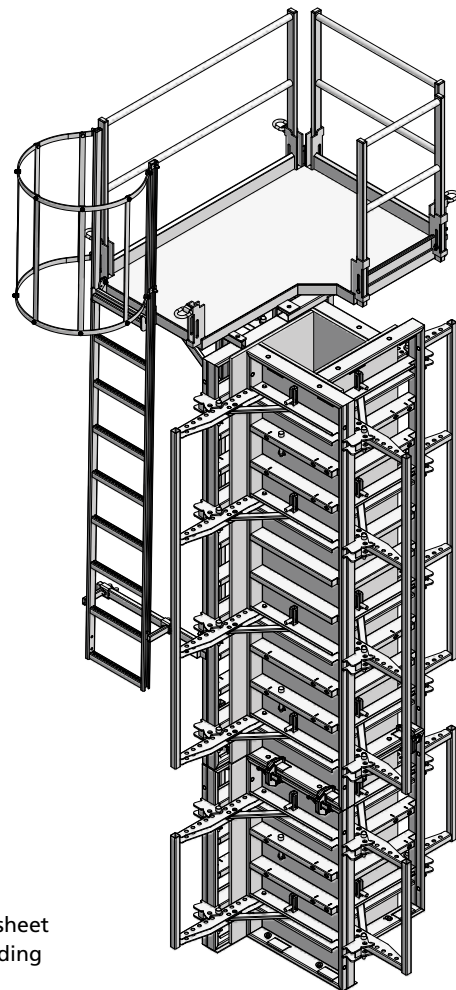

Fig. 11.2
3. Erect the extension panel and connect it to the existing panel unit with AS assembly locks (Fig. 11.2). For exact positioning and alignment it may be advisable to insert two safety bolts through the transport holes before attaching the assembly locks. The safety bolts must be removed again afterwards.